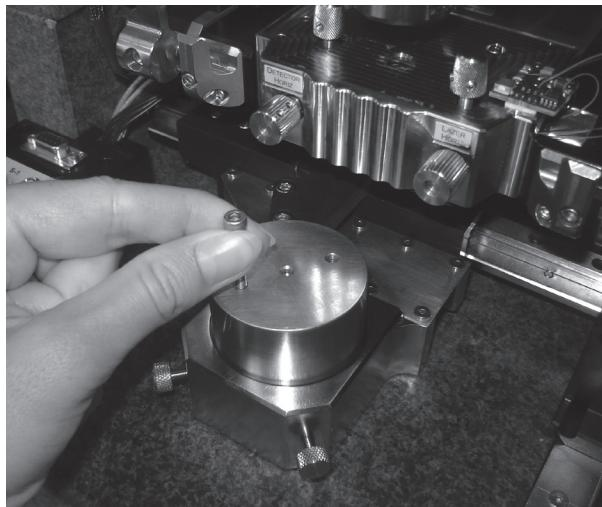

Figure 4.23: Remove base puck by lifting it up with the screw
7. To remove the base puck, put the screw into the threaded hole and lift the base puck up out, as shown in Figure 4.23